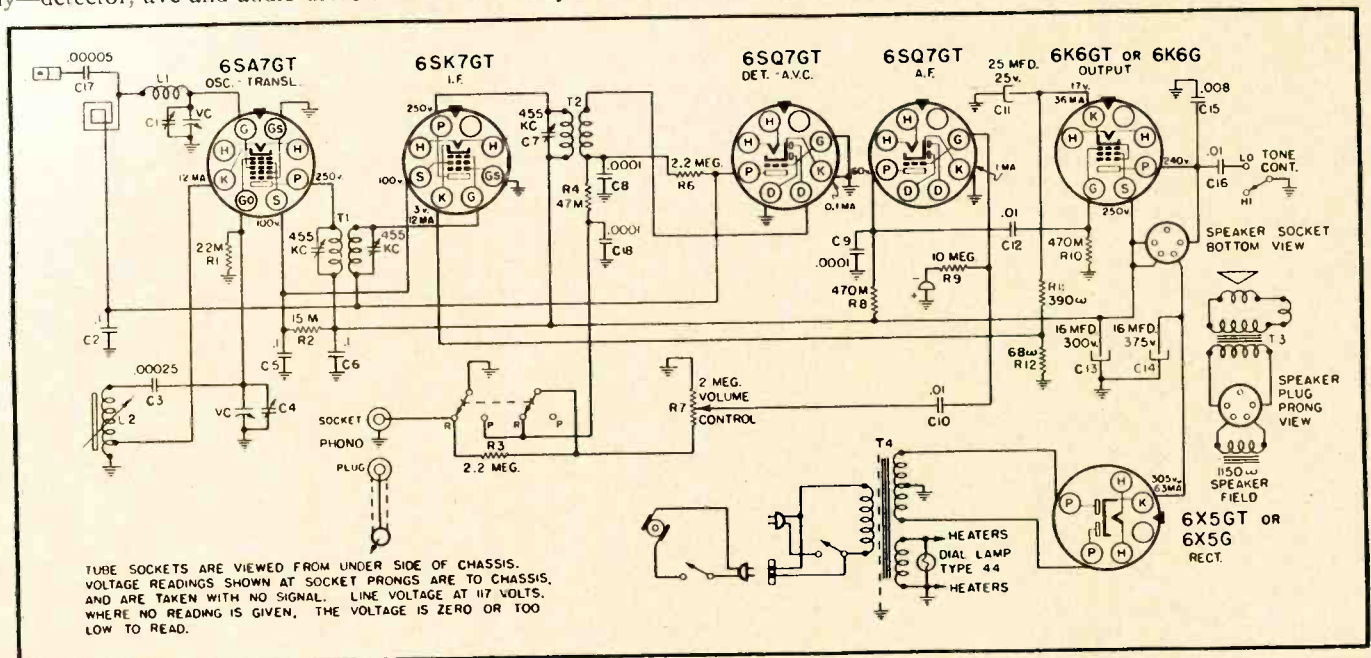

Fig. 5—Silvertone uses dual biasing in 6K6 cathode circuit.
**IF-AF BIAS (FIG. 5)**
In Fig. 5 is shown the schematic of the new Silvertone 101.660 chassis. Note that the oscillator coil in this job has an iron-core adjustment as well as a trimmer C4, the former being the 600-ke padder.